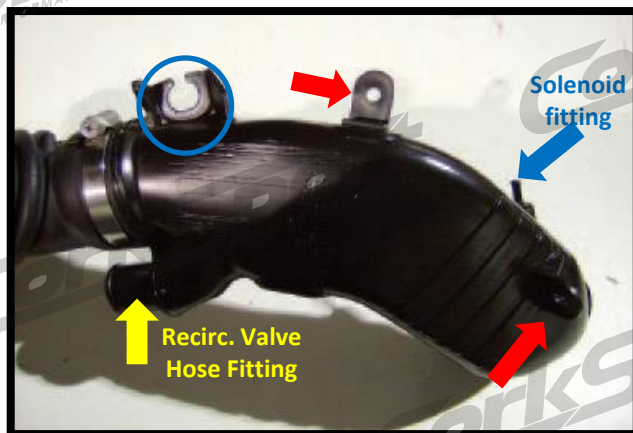

Figure 2f
- i) Remove the 10mm nut that holds the stock turbo inlet pipe in place (blue circle in Figure 2f).
- j) Remove the two wiring harness clips (red arrows in Figure 2f) located on the stock turbo inlet pipe.
- k) Using needle nose pliers, remove the hose** from solenoid fitting on the stock turbo inlet pipe and the boost control solenoid (identified in **Figure 2f** and **Figure 2g** by **blue** arrow).
- c) Connect the 6" small ID silicone tubing to the boost control solenoid** (shown **blue arrow** in **Figure 2f**).
- k) Using needle nose pliers, remove the hose from solenoid fitting on the stock turbo inlet pipe and the boost control solenoid (identified in Figure 2f and Figure 2g by blue arrow).